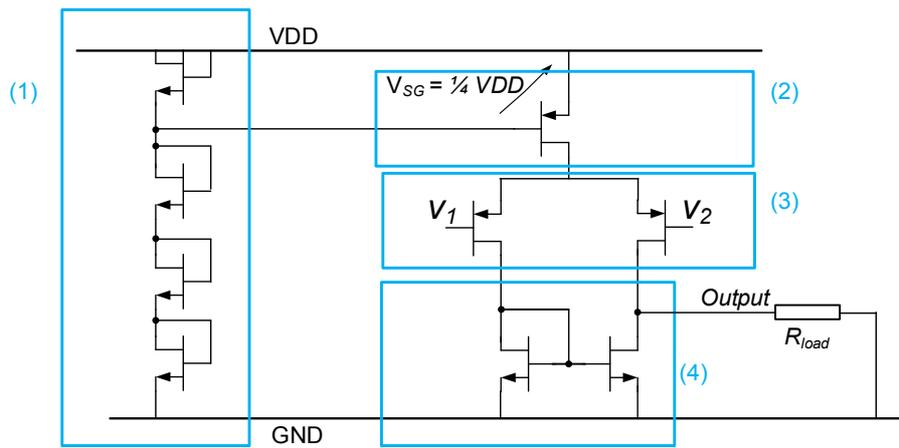

Figure 1
The circuit presented in figure 1 is a key block for many applications.
- 1) What is the global function achieved by the circuit presented in figure 1.
- 2) What is the purpose of each block (1), (2), (3) and (4)?